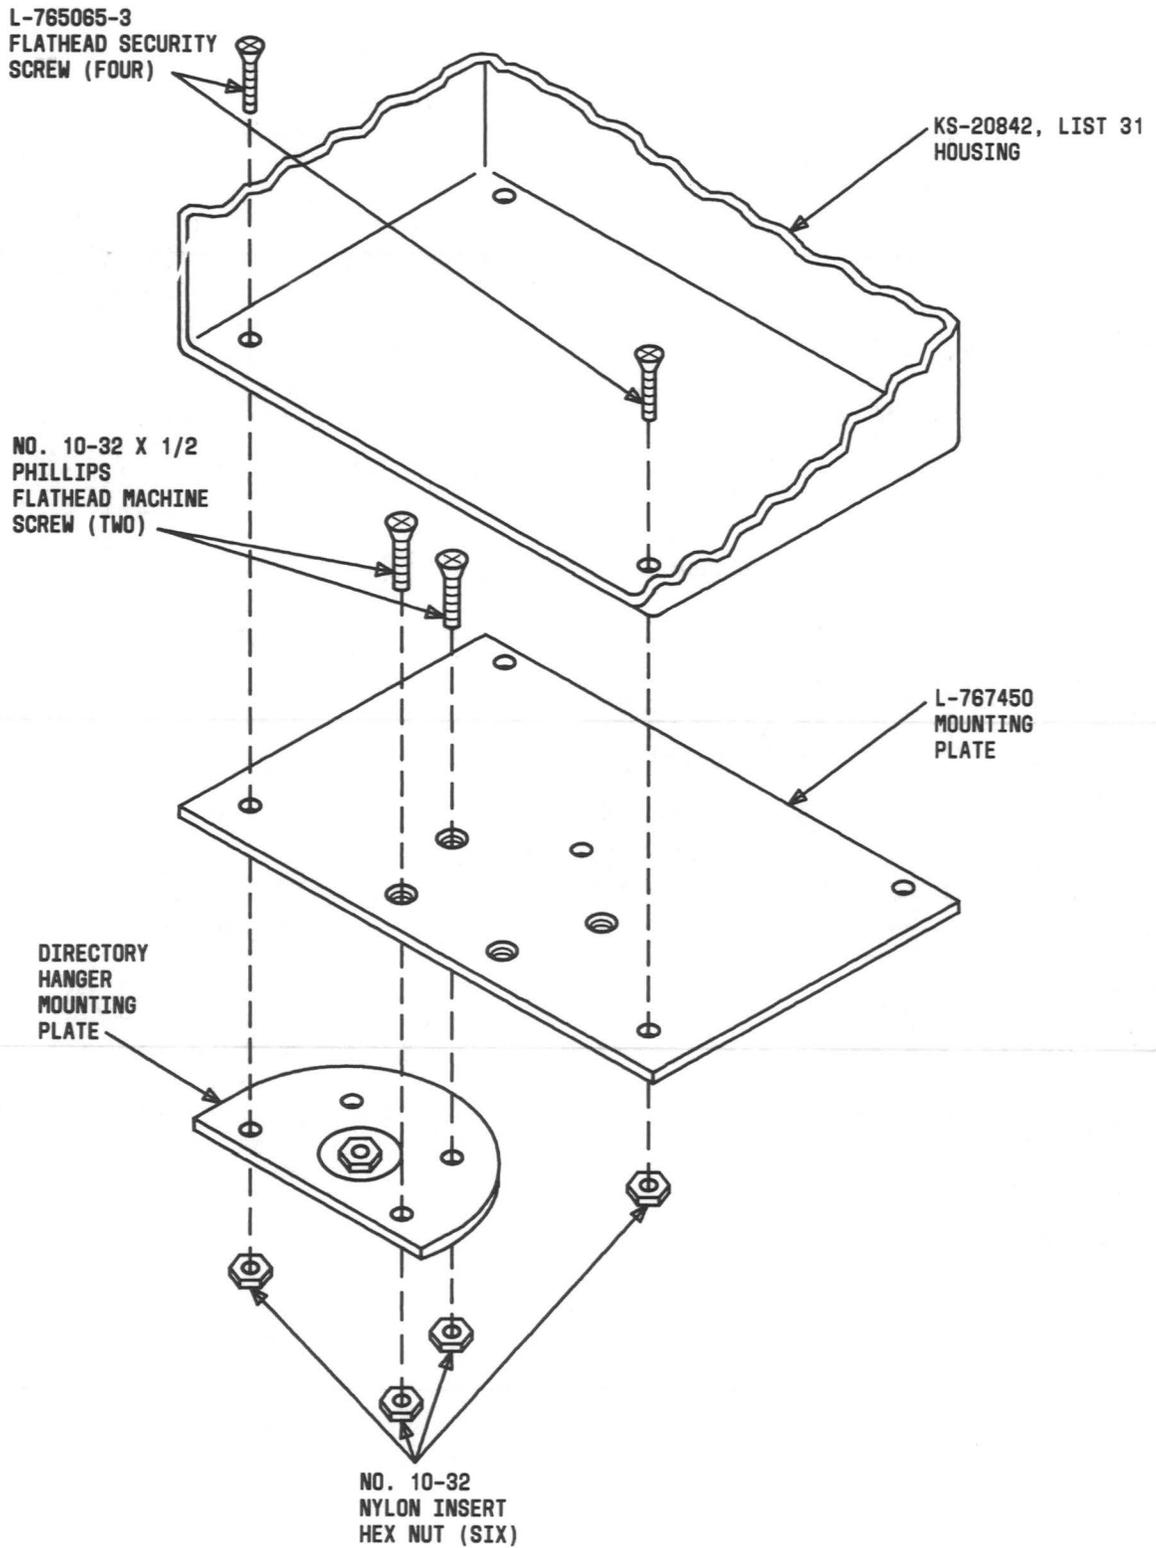

Fig. 22—Installing a KS-20030, List 10 Directory Hanger to a KS-20842, List 31 Housing
- 3.07 Install a KS-20030, List 10 directory hanger on a KS-20842, List 31 housing as shown in Fig. 22.